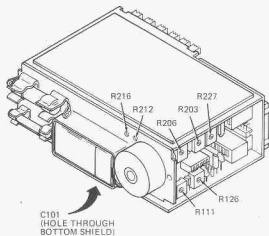

Figure 3-4. Calibration Control Locations
- (3) For each step in table 3-7 select the listed digital multimeter function and range, and program the DMM calibrator for the corresponding input level. Then adjust the listed control until the digital multimeter displayed value agrees with the value listed in table 3-7. Refer to fig. 3-4 for location of calibration controls.
(3) Connect a jumper from black wire at slide switch to frame (analog ground) of either pushbutton switch assembly.
(4) Adjust R216 (fig. 3-4) for 0.00 display on digital multimeter, until minus (-) sign flashes on and off.
(5) Disconnect jumper from pushbutton switch frame and connect to red wire at slide switch. (The other end of jumper must still be connected to black wire at slide switch.)
(6) Adjust R212 (fig. 3-4) for 0.00 display on digital multimeter, until minus (-) sign flashes on and off.
(7) Disconnect both ends of jumper from slide switch wires.
(8) Toggle the slide switch while observing digital multimeter display. Digital multimeter shall display 0.00  $\pm 10$  counts.
(9) If digital multimeter does not display 0.00  $\pm 10$  counts, repeat steps (3) thru (8) above as necessary.
(10) Set digital multimeter POWER switch to OFF.
(11) Install circuit board assemblies in case (paragraph 2-2).